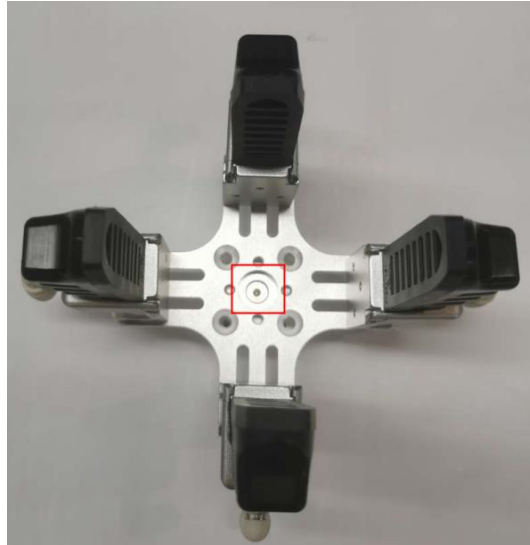

Figure 2.2 Install plugs
**Step 2** Install plugs to Slide mounting plate-4S and tighten them, as shown in Figure 2.2.